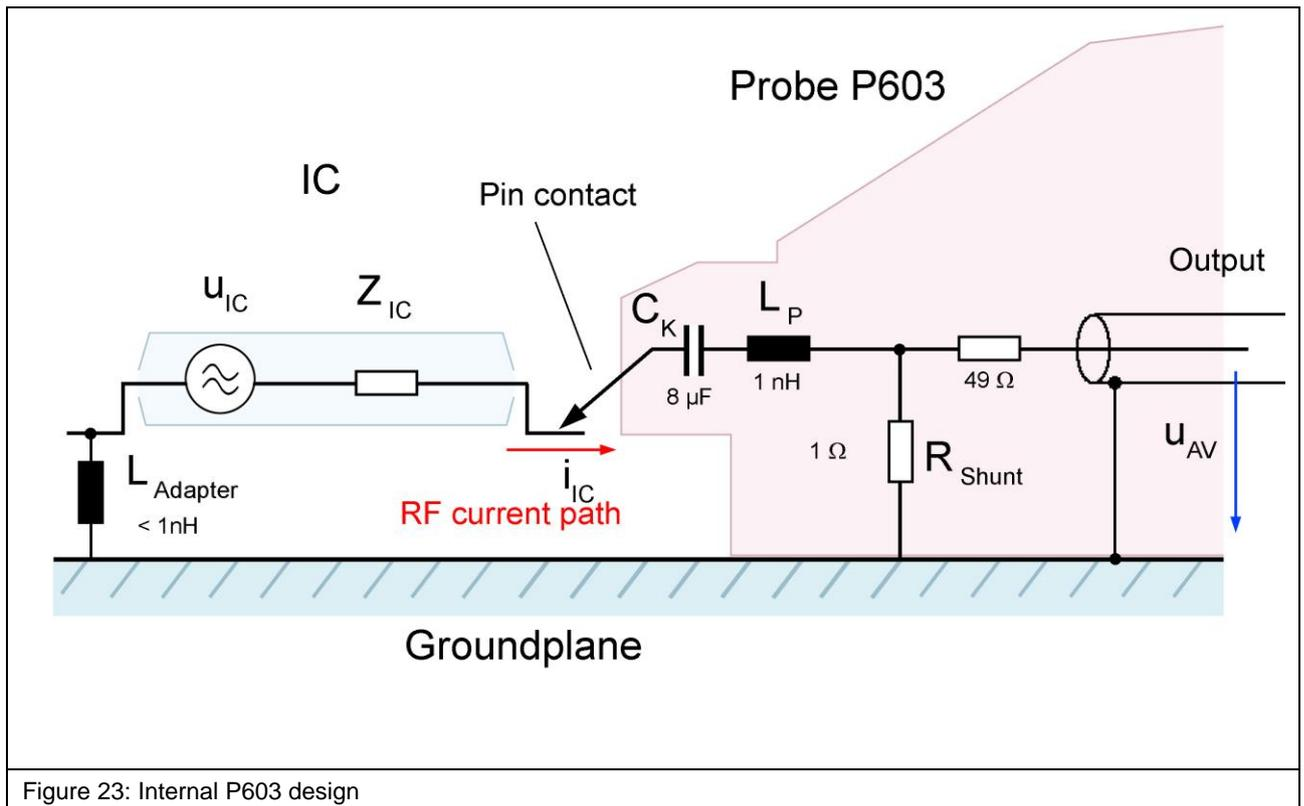

Figure 23: Internal P603 design
**Figure 23** shows the equivalent circuit diagram of the **P603** probe. The current probe head comprises a 1 Ohm shunt, 49 Ohm matching resistor and 8 μF coupling capacitor.